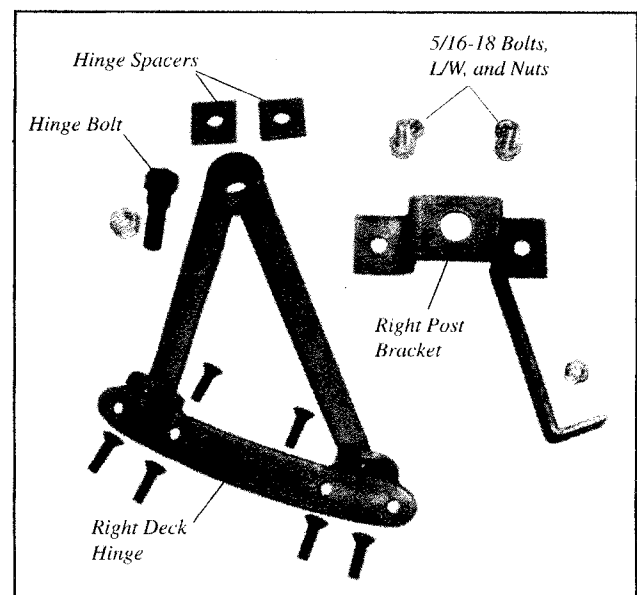

Figure 4-212 - Right Side Hinge Assembly Parts
14. Identify the Right Side Post Bracket and Deck Hinge and the Left Side Post Bracket and Deck Hinge (Figure 4-212).